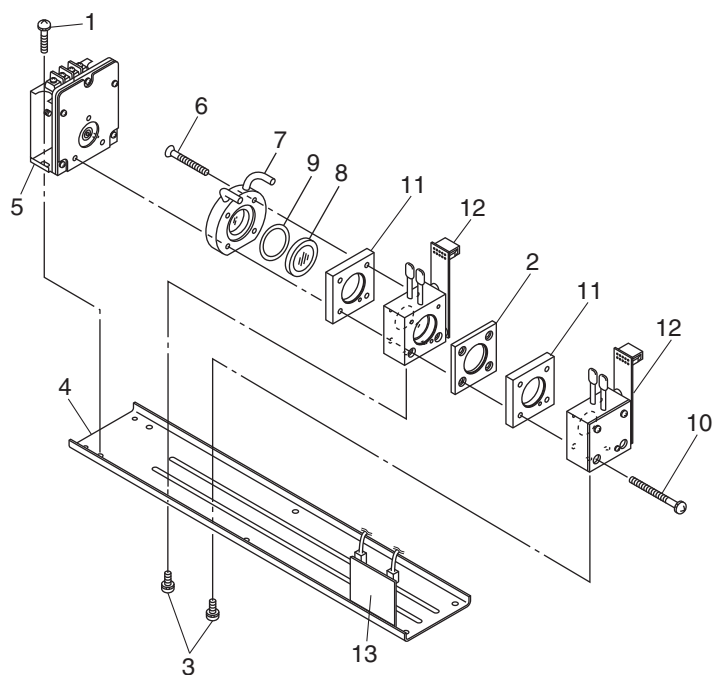

Fig. 7-2 Configuration of measuring unit (block cell)
b. How to remove block cell (See Fig. 7-2)